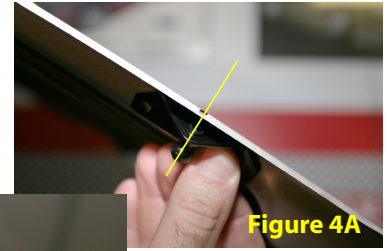
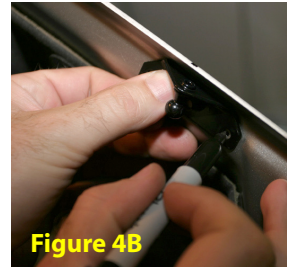

Figure 4A
Figure 4B
A. Align the center of the bracket with the mark you just made on the hood. You will need to view the hood directly from the side as shown in **Figure 4A**. The bracket should sit on the angled hood frame tucked up against the hood skin with the ball stud facing down or toward the engine (**Figure 4B**).